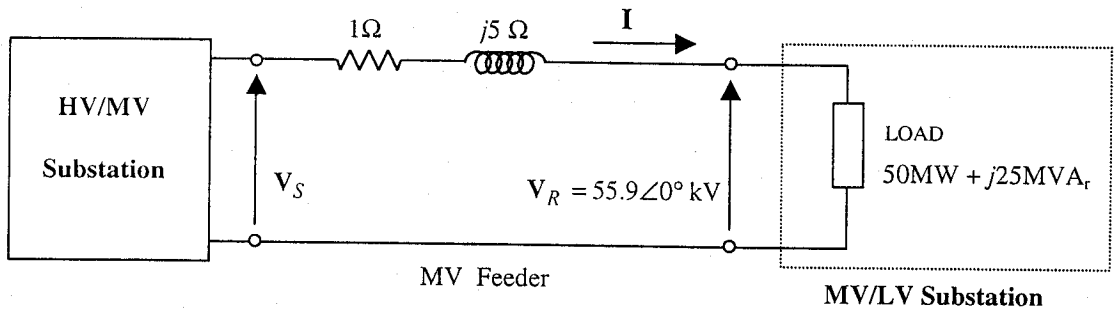

Fig.1
- (c) An MV feeder supplies an MV/LV substation with 50MW of real power and 25MVA_r of reactive power as shown in Fig.1. The voltage at the receiving (load) end of the feeder is 55.9kV. (i) Specify the MVA and power factor of the feeder load. (ii) Determine the value of the feeder current. (iii) Calculate the amounts of real and reactive power absorbed by the feeder itself. (iv) Determine the voltage V_S at the sending end of the feeder. [8 marks]